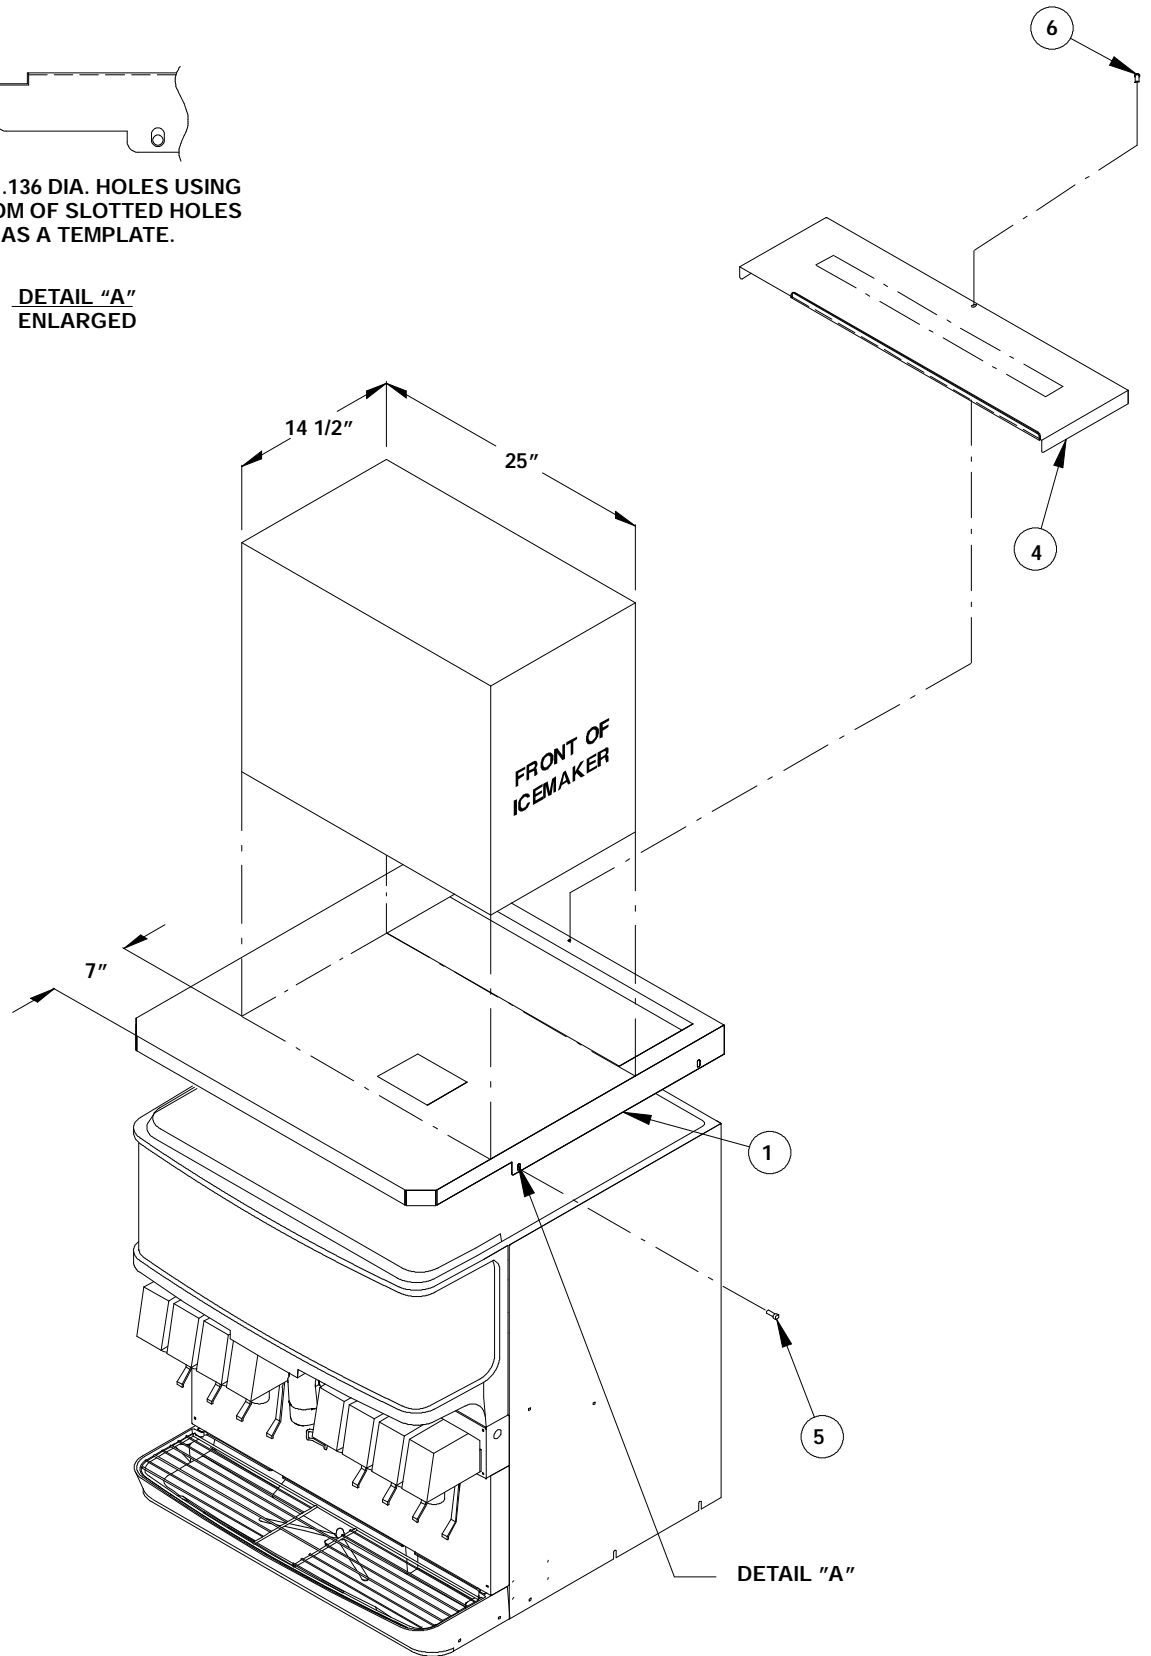

FIGURE 1.
5. Place the lid assembly supplied with the kit on top of the Dispenser and position it flush with the back and sides of the Dispenser as shown in Figure 1.
6. Using the slotted holes in the lid as a template, drill four .136 diameter (#29 drill size) holes at the bottom of the slots (see Figure 1, detail A) into the Dispenser cabinet. Use care not to drill into the ice storage hopper. Fasten the cover to the Dispenser with four #10 sheet metal screws, two on each side.